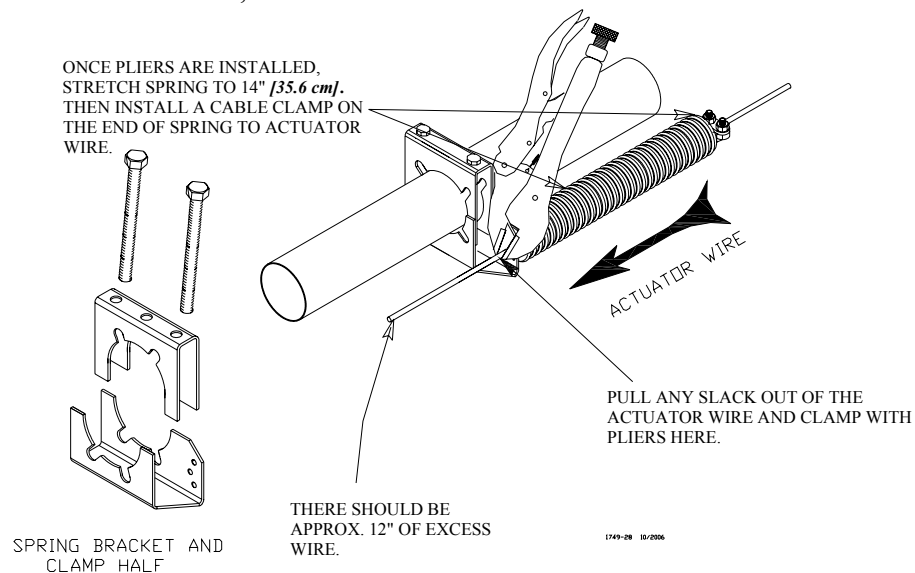

Figure 49. Terminal Bracket
6. Clamp with pliers once slack has been removed from the actuator wire, see figure 49.
9. Clamp the springs to the actuator wire using an 1/8 inch cable clamp, see figure 49. Repeat procedure for the remaining actuator wire installation,